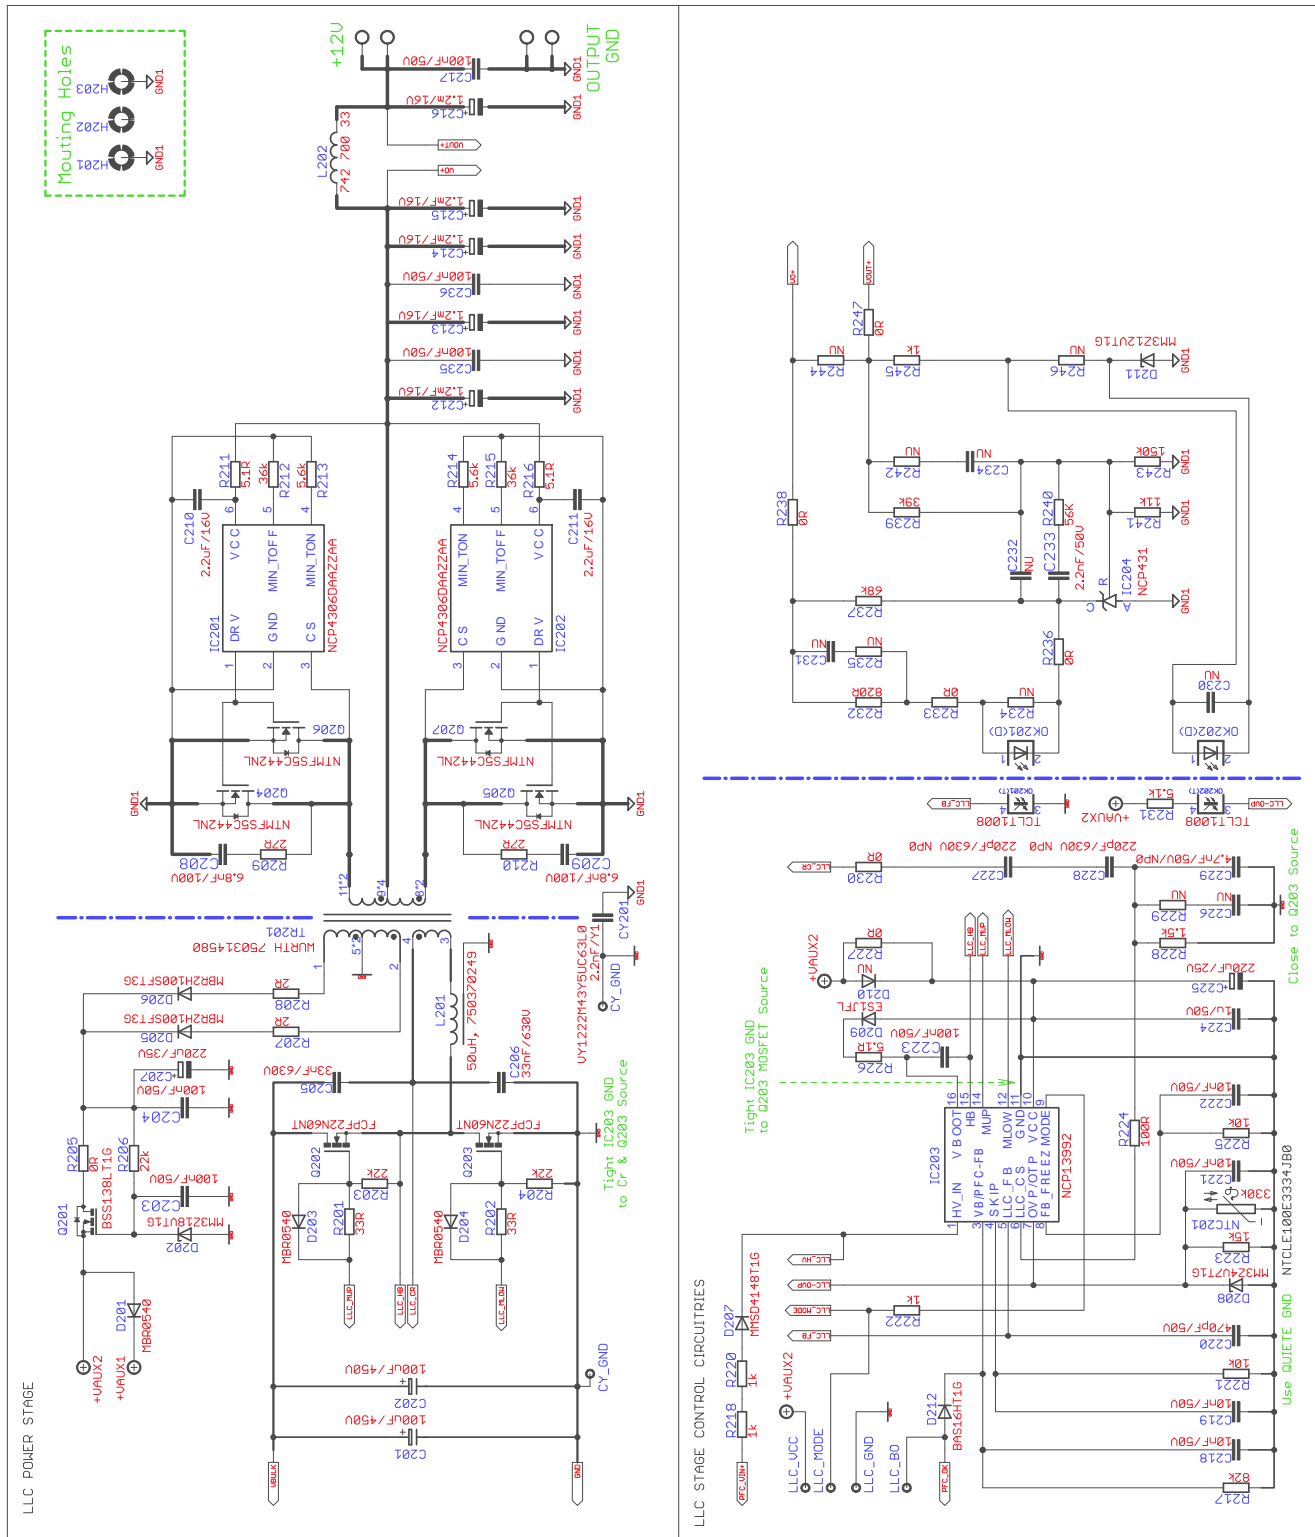

Figure 3. AOI Evaluation Board Schematic – LLC Stage
Entire LLC power stage is displayed in Figure 3. Power stage at primary side of LLC converter is composed of these devices: MOSFETs Q202, Q203, external resonant inductor L201, transformer TR201 and resonant capacitors C205 and C206. The IC203 NCP13992, LLC controller senses primary current indirectly, via resonant capacitor voltage, which is divided down by a capacitive divider, using capacitors C227–C228 and C229. The capacitive divider has to be optimally loaded and in the same time assure fast signal stabilization after application startup. This is achieved by resistor R228. Scaled signal from CS divider passes through resistor R224 which limits maximum current that can flow into the LLC_CS pin. The FB optocoupler OK201 is connected to the LLC_FB pin and defines converter output voltage by pulling down this pin when lower output power is needed. Capacitor C220 forms high frequency pole in FB loop characteristics and helps to eliminate eventual noise that could be coupled to the FB pin by parasitic coupling paths. The VB/PFC–FB pin allows LLC converter operation once input level is approximately above 1.1 V. VB/PFC–FB signal is provided by PFC controller NCP1618, which sources current from PFC–OK pin as aforementioned. VB/PFC–FB pin voltage is filtered by C218. The Skip/REM pin of the NCP13992 is used for skip threshold adjustment. Resistor R221 is used for this purpose together with noise filtering capacitor C219. The over-voltage and over-temperature protections are implemented via OVP/OTP pin by using resistor R223, temperature dependent resistor NTC201, Zener-diode D208, filtering capacitor C221 and optocoupler OK202. Simple OVP detector is located on the secondary side and it's made of resistor R245, Zener-diode D211 OK202 optocoupler diode. The FB_FREEZE pin (8) defines minimum internal feedback voltage (lower saturation level), which influences maximum switching frequency. Resistor R225 sets FB freeze level and C222 decouples noise. The PFC stand-by mode (or PFC soft-skip) is activated by MODE pin (9), which goes high during LLC stage switching and stays low during idle mode– as described in PFC section.